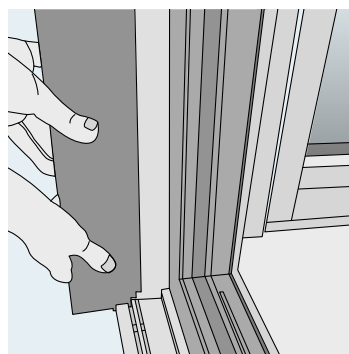

Figure 21
- b. Then push the aluminium part in at the threshold (figure 21).